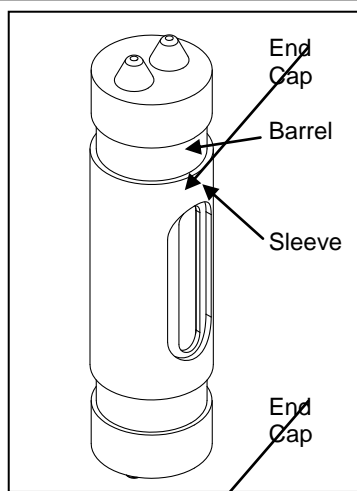

Figure 1-3122 #2
Step 1-3122 #8: (See Figure 1-3122 #4)